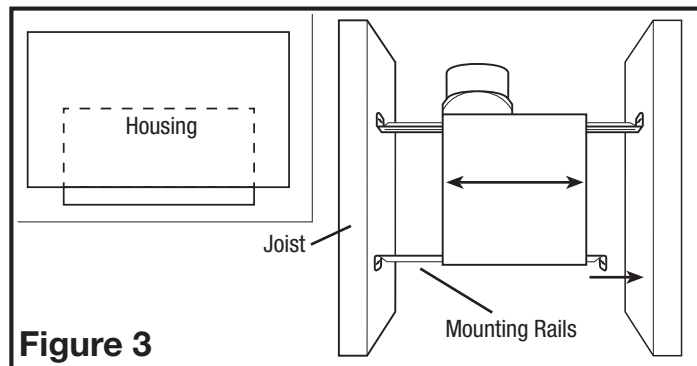
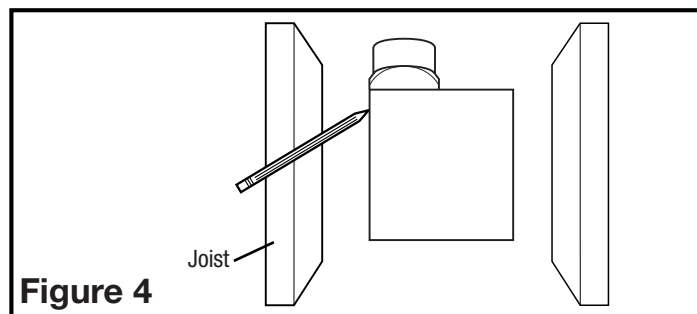

Figure 3
Figure 4
2. Install the side rails on the housing and position the housing next to the joist. Line up housing so that it will be flush with the finished ceiling. Secure the ends of the rails with screws or nails (not included) to the joists and slide the housing into the final position (**Figure 3**).
2. Set housing in position between the joist and trace an outline onto the ceiling material (**Figure 4**). Set housing aside and cut opening, being careful not to cut or damage any electrical or other hidden utilities. Install the side rails on the housing and position the housing in the previously cut hole so that it is flush with the finished ceiling. Secure the ends of the rails to the joists (**Figure 3**).